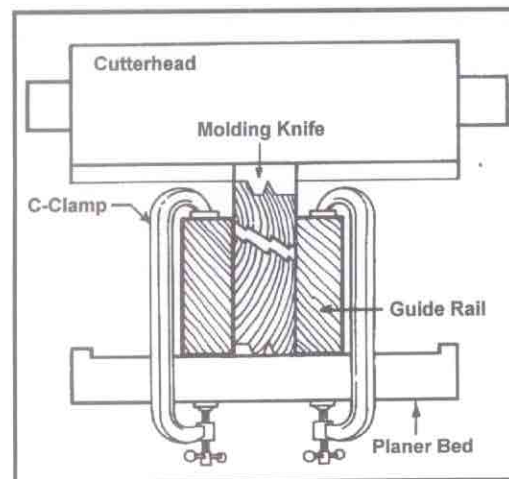

Fig. 18
6. Clamp the guide rail to the bedboard using "C" clamps on both ends. (This can also be done by nailing with small gauge finish nails. Keep in mind the guide rails must be positioned properly before nailing. Be careful with nail length; do not nail through the bedboard and into the table). (Fig. 18)